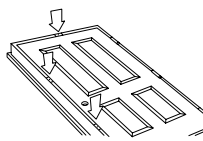

Fig. 3
3. If your prehung door is fastened in the closed position with a duplex nail or removable plastic plug, remove these along with the packaging and crating. NOTE: If your door unit has pre-hanging clips (Fig. 3), do not remove them until instructed to do so. These clips hold the door system aligned and closed during installation.